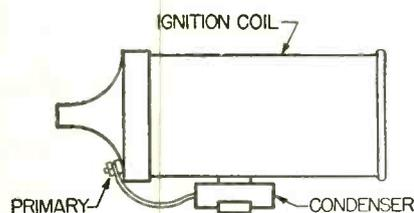
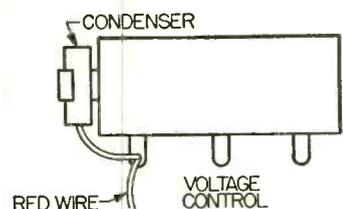

Fig. 4—Ignition coil condenser.
Fig. 5—Voltage control condenser.
All 1956 Oldsmobiles have special resistor type spark plug and coil wires and no other suppression is necessary at the distributor. Condensers are mounted at the following points: (1) "A" terminal (brown wire) of the generator (see Fig. 3), (2) the primary terminal of the ignition coil (Fig. 4) (3) the positive (red wire) terminal of the generator-voltage control. (Fig. 5).